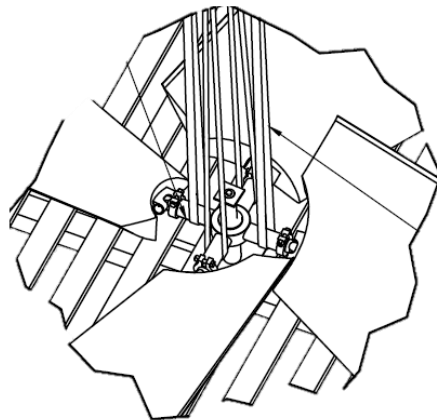

**Figure 16.** Seal Disk
1. The center seal disk, shown in **Figure 16**, must be removed before the lifting slings are attached to fan blade shanks. Note the assembly orientation of the seal disk hardware for reassembly and remove it according to the seal disk hardware detail in **Figure 17**. If there is not enough clearance on the seal disk stud or not enough resilient or aluminum washers, the resilient washer can sit directly on the bottom nut without an aluminum washer in between. One resilient washer above the seal disk is acceptable.